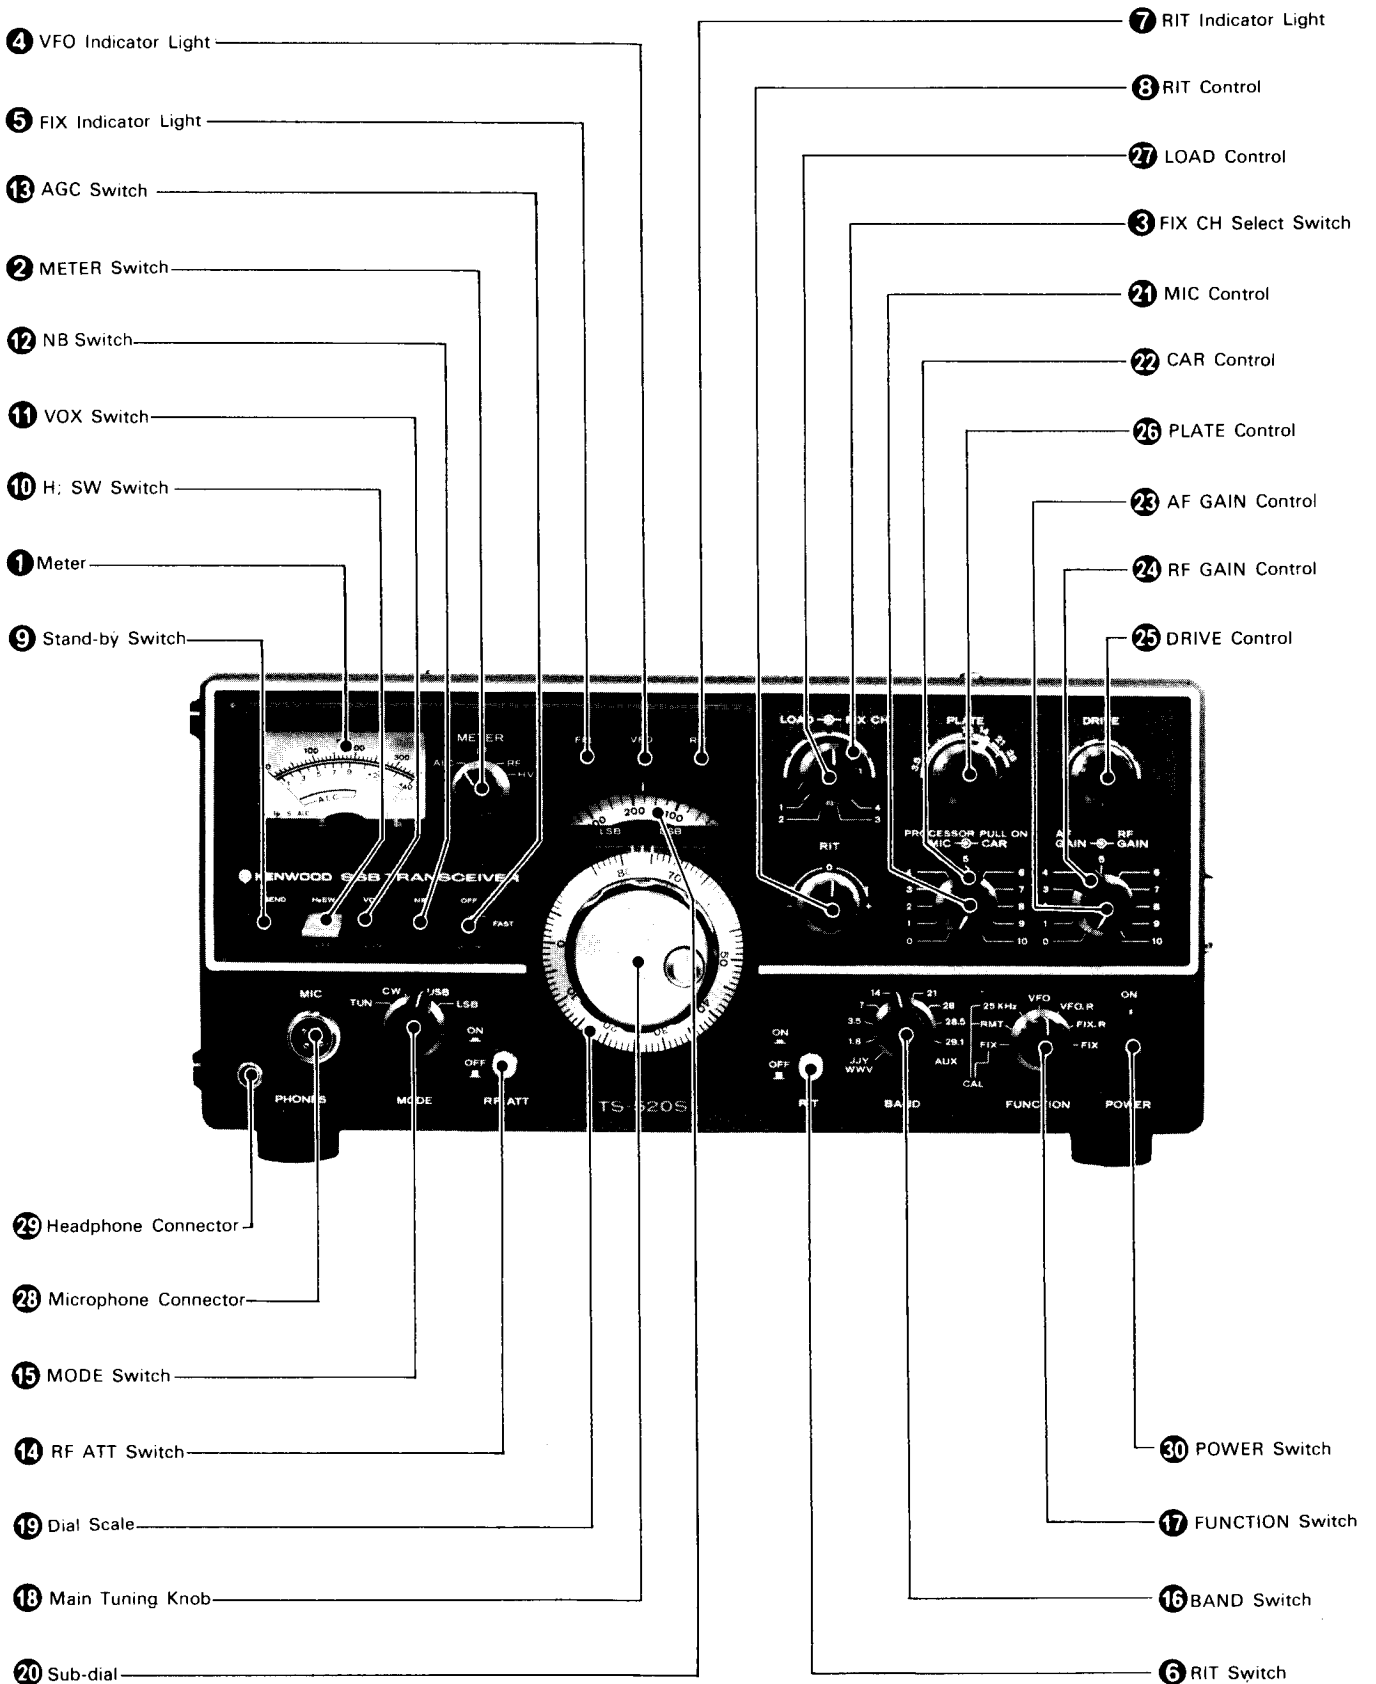

Fig. 5 Front Panel Controls
3.1 FRONT PANEL CONTROLS (See Figure 5)
■ METER (1 on Figure 5)
■ METER SWITCH (2 on Figure 5)
■ CH. (FIXED CHANNEL) SELECT SWITCH (3 on Figure 5)
■ VFO INDICATOR LIGHT (4 on Figure 5)
■ FIX (FIXED CHANNEL OPERATION) INDICATOR LIGHT (6 on Figure 5)
■ RIT SWITCH (6 on Figure 5)
■ RIT INDICATOR (7 on Figure 5)
■ RIT CONTROL (8 on Figure 5)
■ STAND-BY SWITCH (9 on Figure 5)
■ H. SW (Heater) SWITCH (10 on Figure 5)
■ VOX SWITCH (11 on Figure 5)
■ **NB SWITCH** (12 on Figure 5)
■ **AGC SWITCH** (13 on Figure 5)
■ **RF ATT SWITCH** (14 on Figure 5)
■ **MODE SWITCH** (15 on Figure 5)
■ **BAND SWITCH** (16 on Figure 5)
■ **FUNCTION SWITCH** (17 on Figure 5)
■ **MAIN TUNING KNOB** (13 on Figure 5)
■ **DIAL SCALE** (14 on Figure 5)
■ **SUB-DIAL** (15 on Figure 5)
(16 on Figure 5)
■ **CAR CONTROL** (17 on Figure 5)
■ **AF GAIN CONTROL** (18 on Figure 5)
■ **RF GAIN CONTROL** (24 on Figure 5)
■ **DRIVE CONTROL** (25 on Figure 5)
■ **PLATE CONTROL** (26 on Figure 5)
■ **LOAD CONTROL** (27 on Figure 5)
■ **MIC CONNECTOR** (28 on Figure 5)
■ **PHONES JACK** (29 on Figure 5)